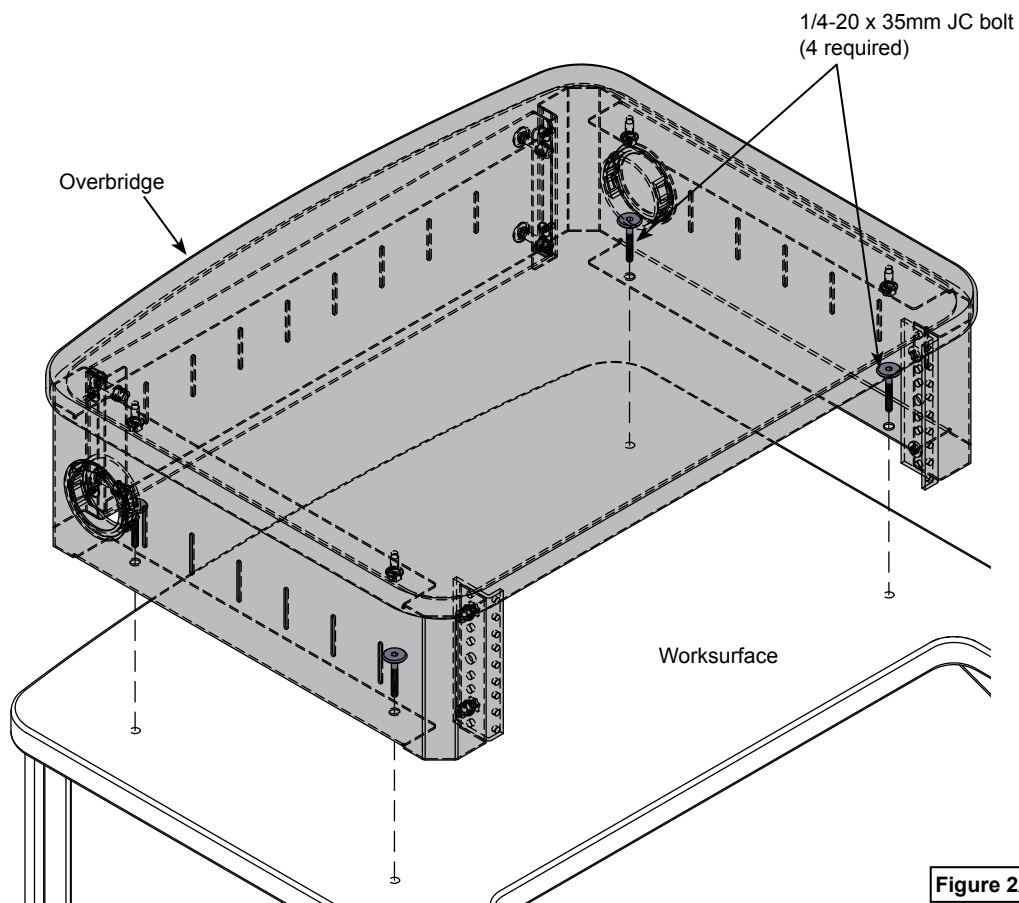

Figure 2A
1. Align the overbridge with the mounting holes. **Figure 2A.**